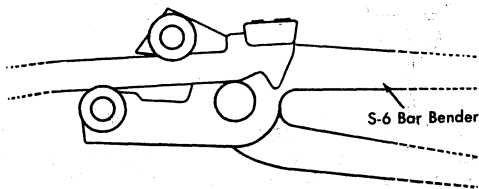
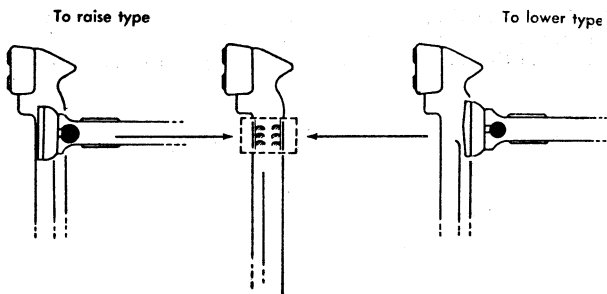

Figure 8. Bending Bar Toward Platen also Lowers Type Considerably
Figure 14. Peening Restricted to Area Indicated
1. Adjust the type bar for ring and cylinder with the bar benders set low on the bar if no raising or lowering is desired or as in Figures 8 and 9 if the elevation of the type face is to be changed.
6. When a type face needs to be raised a considerable amount, place the type maulers, or peening pliers, on the front edge of the bar and peen (Figure 14). To lower a type, slightly, peen on the back edge, away from the platen (Figure 14), although a type face may be lowered a greater amount by applying the S-6 bar benders as in Figure 8, remembering to keep the bar benders high on the type bar for the greatest lowering effect.
After correcting ring and cylinder, the type face may be raised to the writing line by peening or lowered by using the S-6 bar bender high on the type bar (Figure 8).